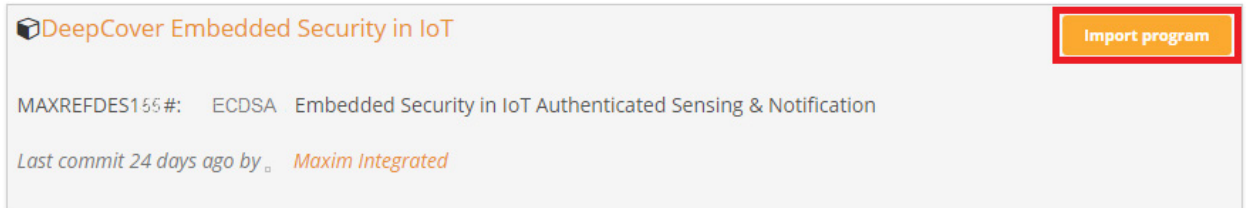

Figure 1. *Import program* button.
2. Import the latest revision of the program into the online compiler by clicking on the **Import program** button in the mbed repository page (**Figure 1**). A free mbed account is required to access the online compiler.